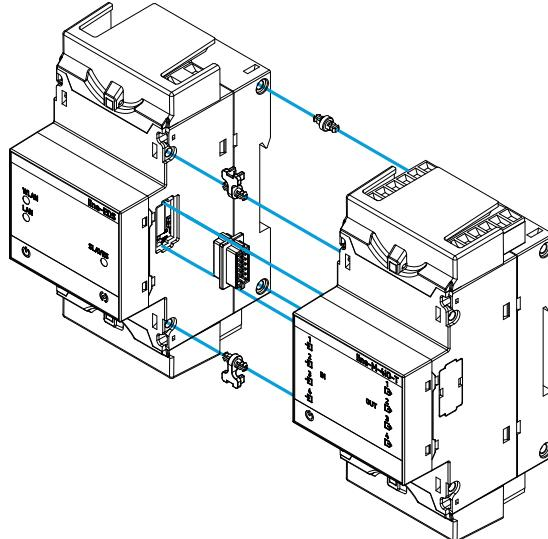

Figure 9: Installation step 2.
- 2.- Insert the expansion connector and fastening clips into one of the devices (**Figure 9**).